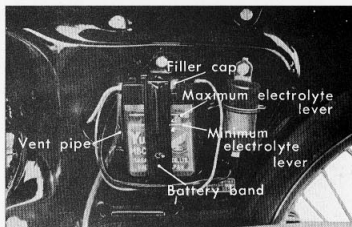

Figure 6-42. Battery electrolyte level
- b. Always maintain the electrolyte level above the lower electrolyte level marking on the battery. When replenishing, add distilled water to raise the electrolyte level to the upper marking. (Fig. 6-42)